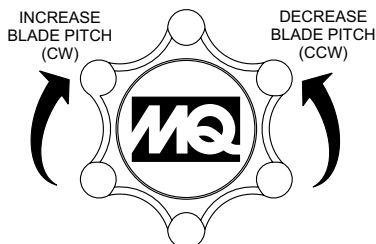

Figure 9. Blade Pitch Star Wheel (Standard Handle)
- For **Standard Handle** models expose the pitch cable to maximum by turning the blade pitch star wheel (Figure 9) fully counterclockwise for no pitch (blades flat).